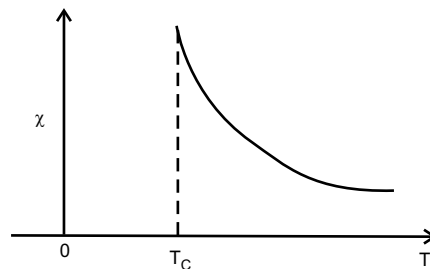

Fig. 12
The susceptibility of magnetic materials decreases externally with the increase of temperature (T) as shown in Fig.12.